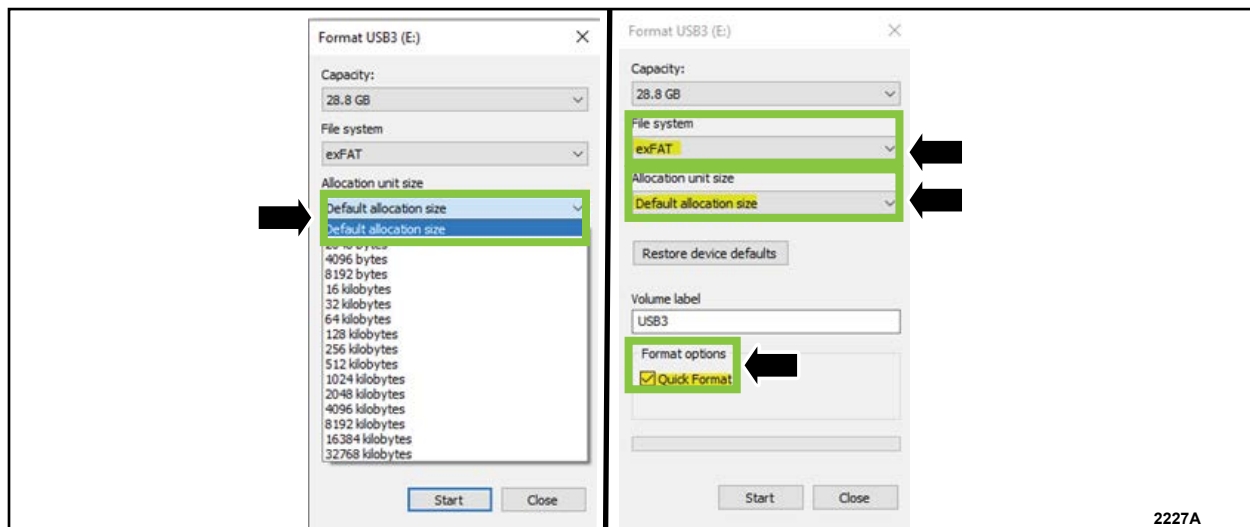

FIGURE 2
- d. De-selecting Quick Format is not necessary and will result in a lengthier operation. See Figure 2.